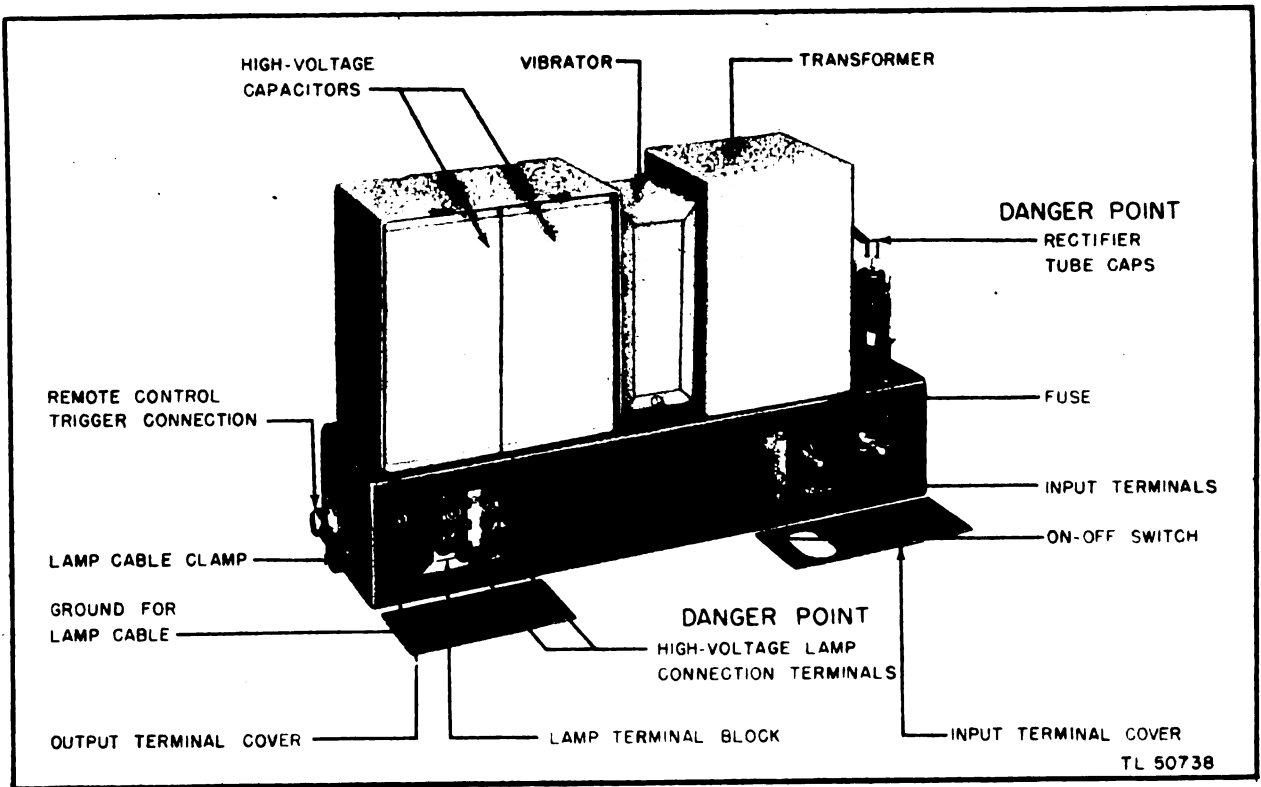

Figure 12. Voltage Converter PP-49/VVX-1 or PP-50/VVX-1X, cover removed.
Remove input terminal panel. Unscrew the cap marked Fuse (fig. 12). Remove defective fuse. Replace with new fuse of the proper rating. Refer to paragraph 9j (1) for fuse ratings of Voltage Converter PP-49/VVX-1 and to paragraph 9j (2) for Voltage Converter PP-50/VVX-1X.
16. REPLACING VIBRATOR (fig. 12).
17. REPLACING TUBES (fig. 12).